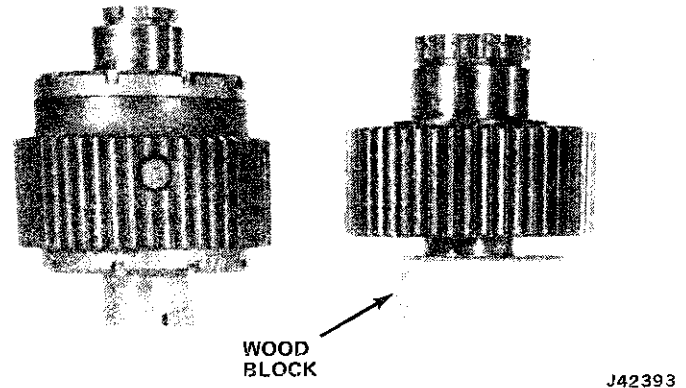

Fig. 2D-45 Differential and Drive Sprockets Positioned for Chain Installation
(3) Install drive chain on drive sprocket and differential sprocket (fig. 2D-46).